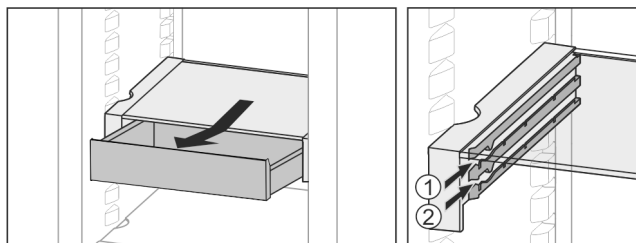

Fig. 30
- ▶ Slide in at any height Fig. 30 (1) or Fig. 30 (2).